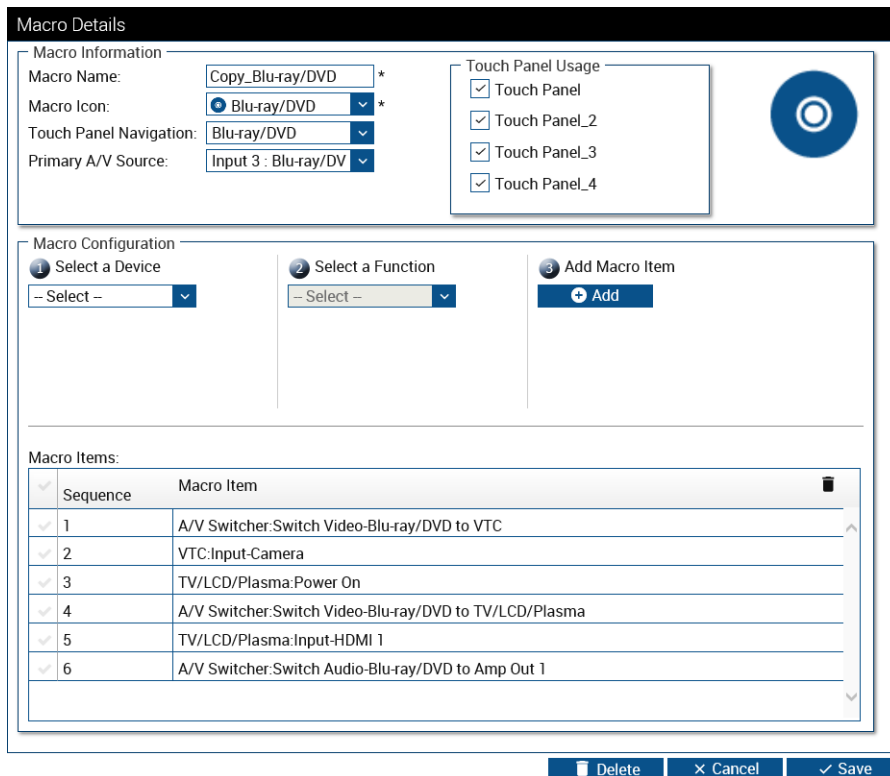

FIG. 76 Example Macro Details page (for the "Copy_Auxiliary Source" device macro)
5. Select the copied macro to edit its details, in the *Macro Details* page (FIG. 76):